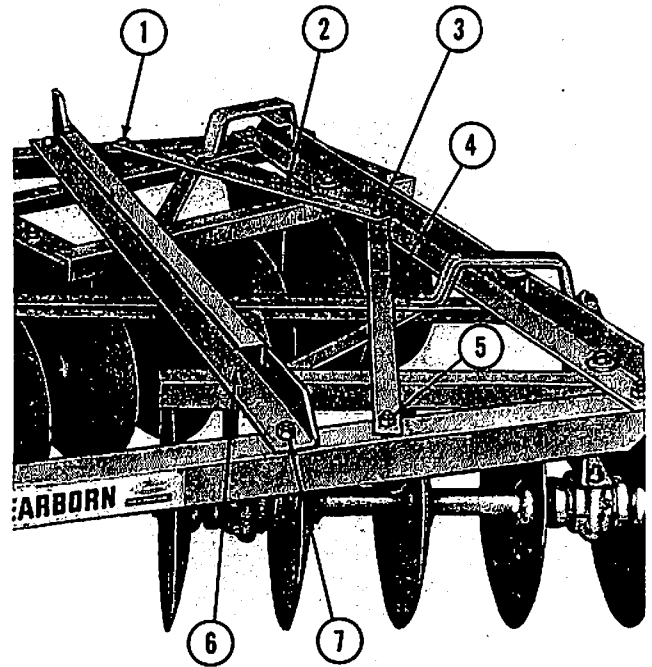

Figure 3
- f. Attach the two center frame members (See 6, Figure 3) to the harrow with the four $\frac{1}{2}$ " x $1\frac{1}{4}$ " bolts and locknuts (7).
- g. Position one short frame brace (2), Figure 3, and one long brace (4) on each side of the harrow frame as shown. Attach both braces to the outer frame with $\frac{7}{16}$ " x $1\frac{1}{4}$ " bolts and locknuts (3). Secure the short braces (2) to the front member (1) and the long braces to the rear frame member (5) with the $\frac{7}{16}$ " x 1" bolts and locknuts provided.